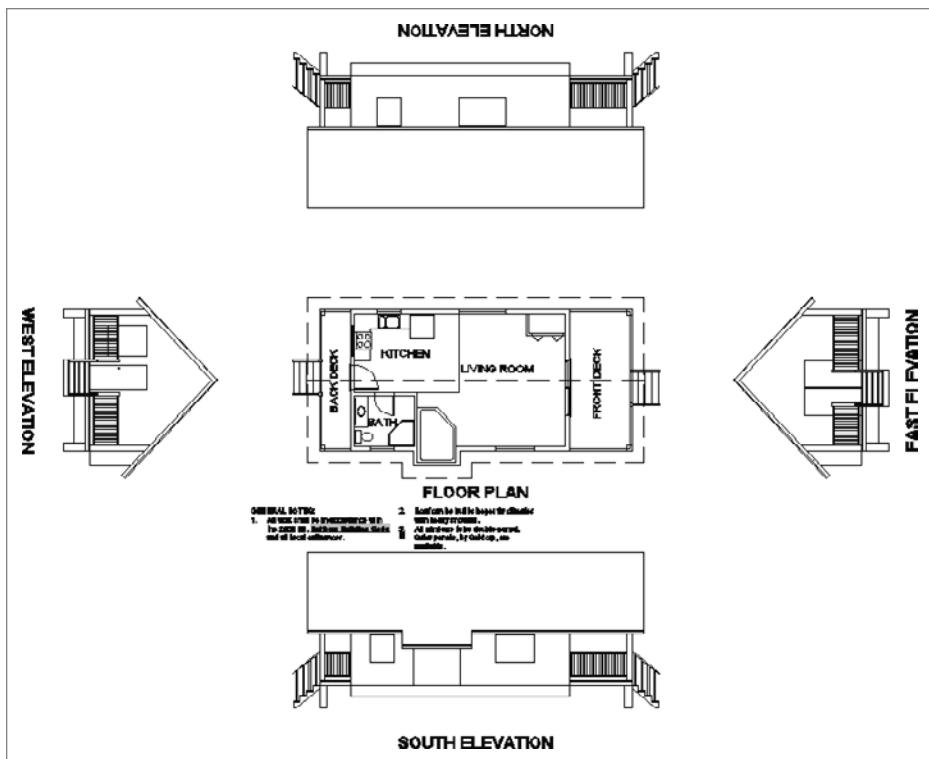

FIGURE 10.52 The finished elevations
6. Zoom out slightly for a full view of all elevations. The drawing looks like Figure 10.52.